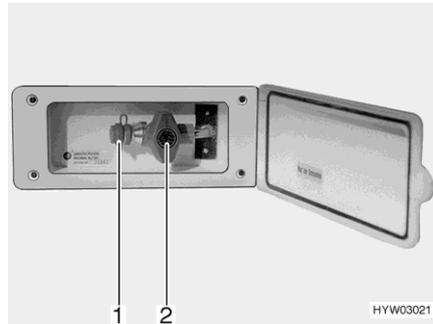

Fig. 83 External gas connection (gas isolator tap closed)
- Connect the external gas device to the connection point (Fig. 83,1).
- Open the gas isolator tap (Fig. 83,2).